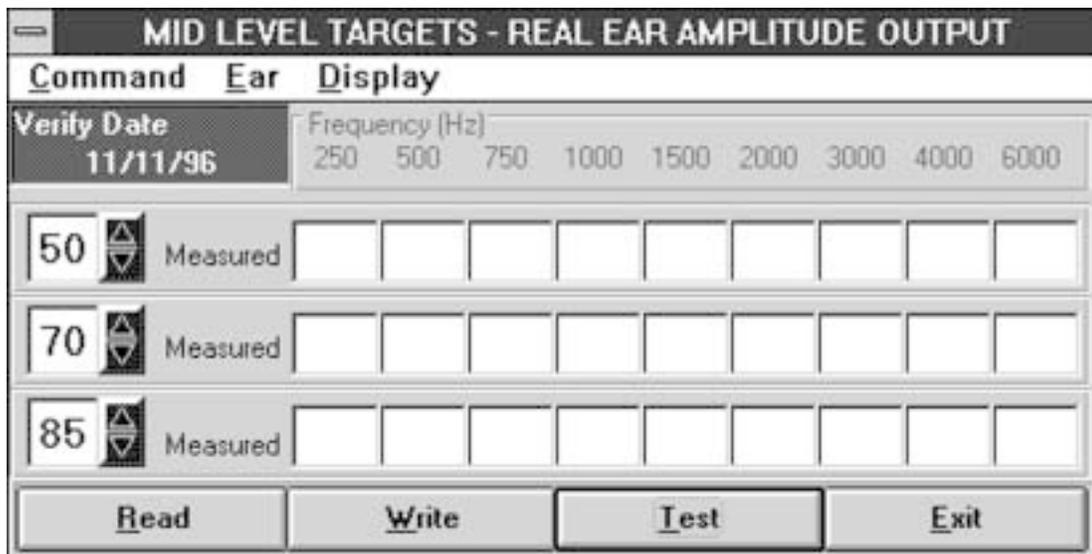

Figure 4.1.3
1. Click on the mid-level target icon. A new window will open with a series of three test rows. See Figure 4.1.3.